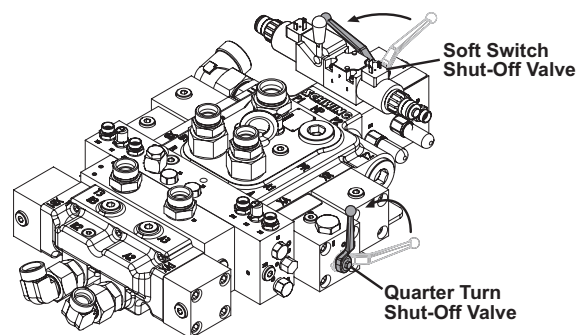

Figure 38
2. Close the soft switch and quarter turn shut-off valves on the main control block (Figure 38).